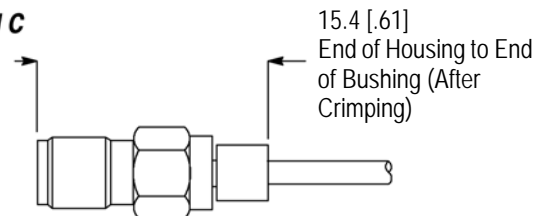

Figure 3
2. Insert the center conductor through the bushing and into the center contact (inside the housing assembly) until the jacket bottoms on the internal shoulder in the housing assembly. See Figure 3, Detail A.
3. Set the tool crimp length to .530, and install the lower cable support for .141 S.R. Position the connector assembly in the tool so that the reference plane of the housing assembly is against the anvil and the cable is seated in the lower cable support. See Figure 3, Detail B. Actuate the tool.
4. Remove the connector assembly from the tool, and inspect the crimp according to Figure 3, Detail C.